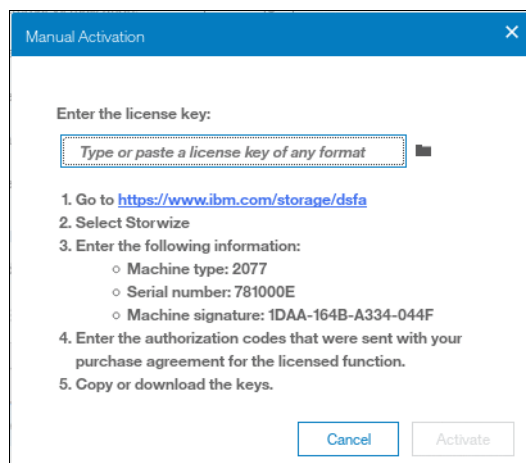

Figure 13-17 Manual encryption license activation window
1. Select **Activate License Manually**, the Manual Activation window opens, as shown in Figure 13-17 on page 718.